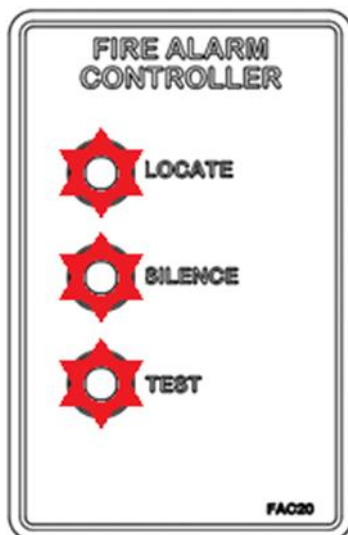

Figure 7 Second FAC20 indication
3. If ALL three LEDs are flashing RED as shown in Figure 7 below, the system is being controlled by the second FAC20 (if additional FAC20 is used in the circuit).